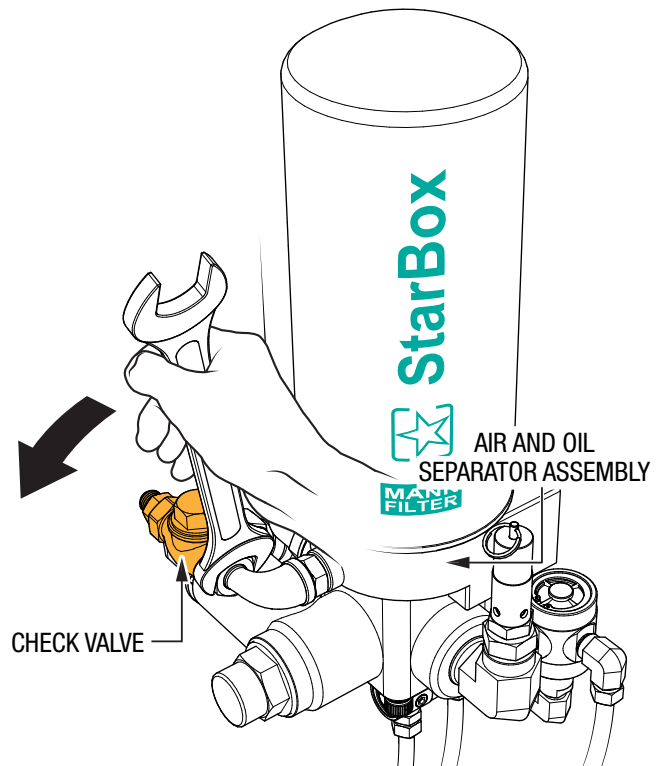

Figure 8. Check Valve Removal
2. Remove the check valve from the air and oil separator assembly, and set aside. See Figure 8.